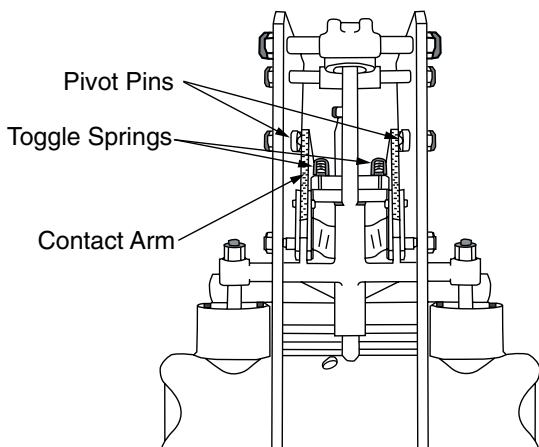

Figure 3. Contact arm removal.
3. Unhook toggle springs, note orientation of contact arm assembly, and carefully pry arm assembly from pivot pins and discard, Figure 3.